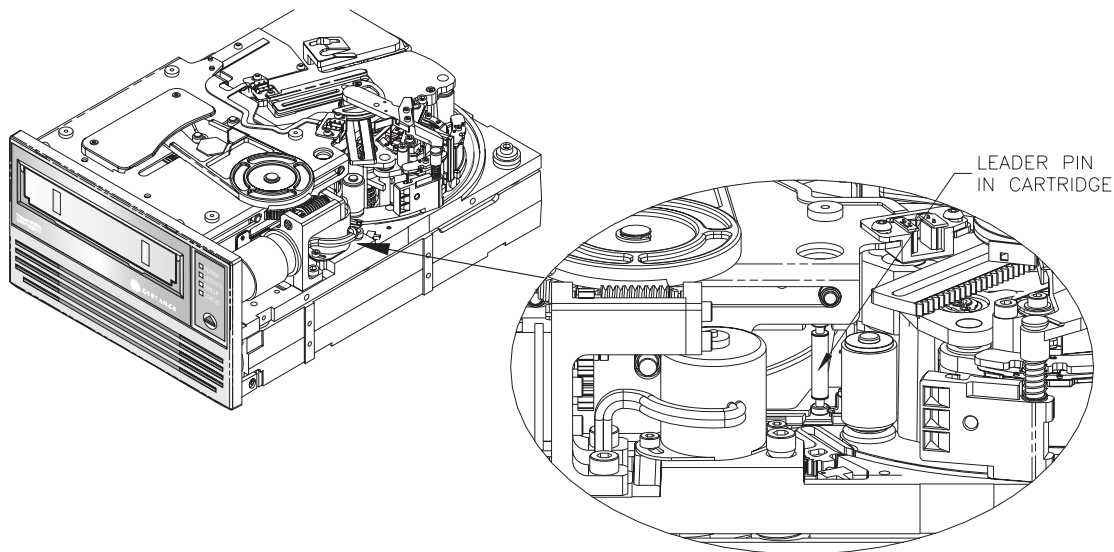

Figure 1. Diagram of Drives with Leader Pin Inside LTO Cartridge (Tape Not Threaded on Take-up Hub)
- If the cartridge is loaded and the leader pin is still in the cartridge (see Figure 1), go to “Cartridge is Loaded and Seated” on page 2.
1. Verify that the leader pin is still inside the cartridge as shown in Figure 1 **Error! Bookmark not defined.** If the leader pin has been pulled out of the cartridge and is still in the tape path, follow the steps in " Cartridge is Loaded and Seated with Tape Threaded" on page 44.